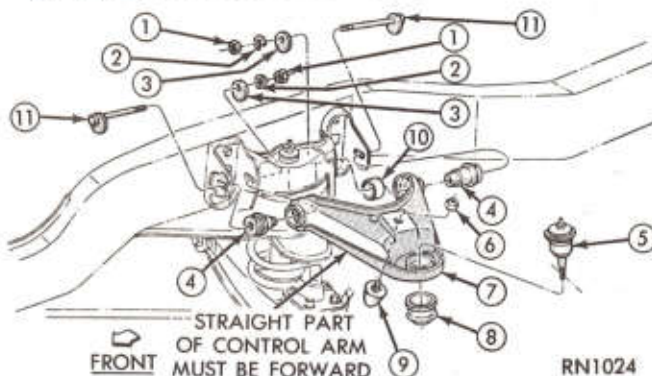

Fig. 9—Upper Control Arm (Disassembled View)
(6) Remove the tool. Remove the eccentric pivot bolts and the control arm (Fig. 9).
LEGEND FIG. 9